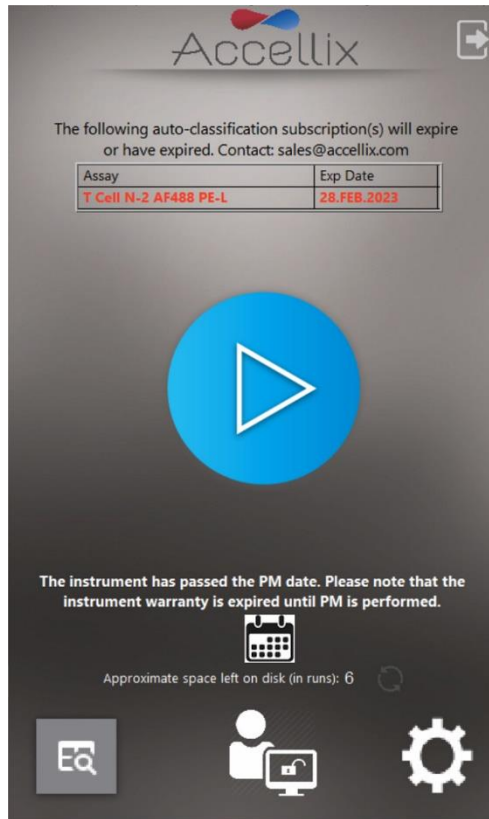

Figure 15: Home screen with login enabled, showing subscription status and PM status
Note: If auto-classification subscriptions are enabled and an assay's subscription is due to expire within the next 6 weeks, the assay's name and expiration date will appear in **yellow** in a table above the blue Start button. If an assay's subscription has already expired, the assay name and expiration will appear in **red** (Figure 15).
Note: If the instrument has passed its Preventative Maintenance (PM) date, a warning will appear below the blue **Start** button (Figure 15).